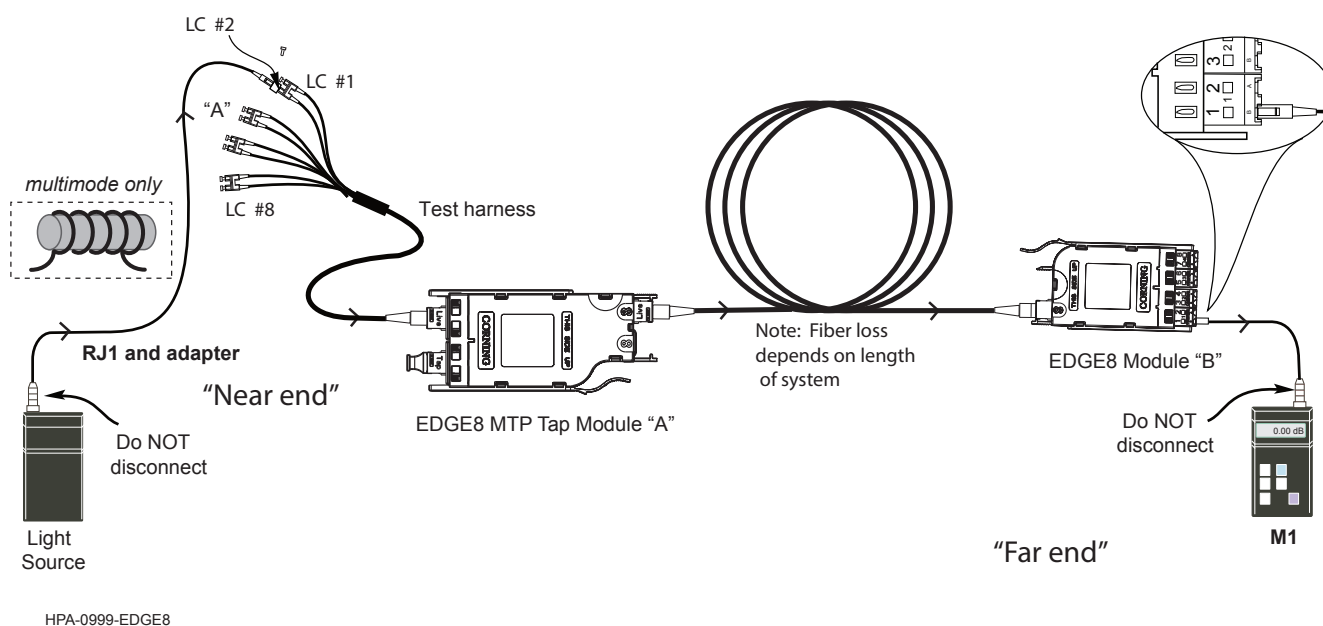

Figure 10
8.3. Table 2 provides a complete guide to the test sequence with a light source at the MTP Tap module “A” (“Near end”) and a meter at Module “B”, or the “Far end” of the system shown in Figure 10.
8.4 To begin testing the Live Portion of the MTP Tap module (Figure 10):
Step 2: Install **RJ2’s LC connector** into the number 1 port of the EDGE8 module (Module “B” in Figure 10).